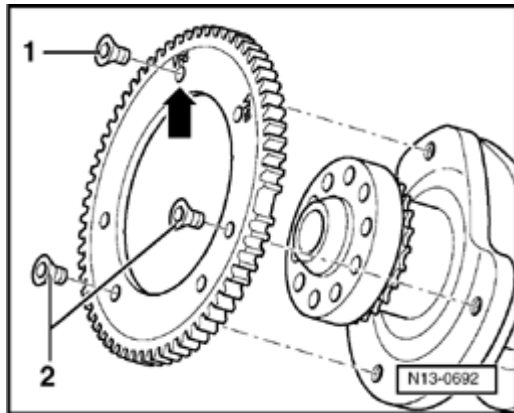

Fig. 1 Installing sensor wheel to crankshaft
⇒ Fig. 1
- ◆ Checking ring gap \Rightarrow Fig. 1